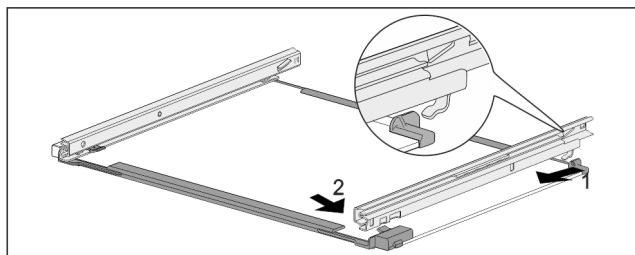

Fig. 61 Glass shelf with rails
- ▶ Hook in rail at the back. Fig. 61 (1)
- ▶ Hook in rail at the front. Fig. 61 (2)